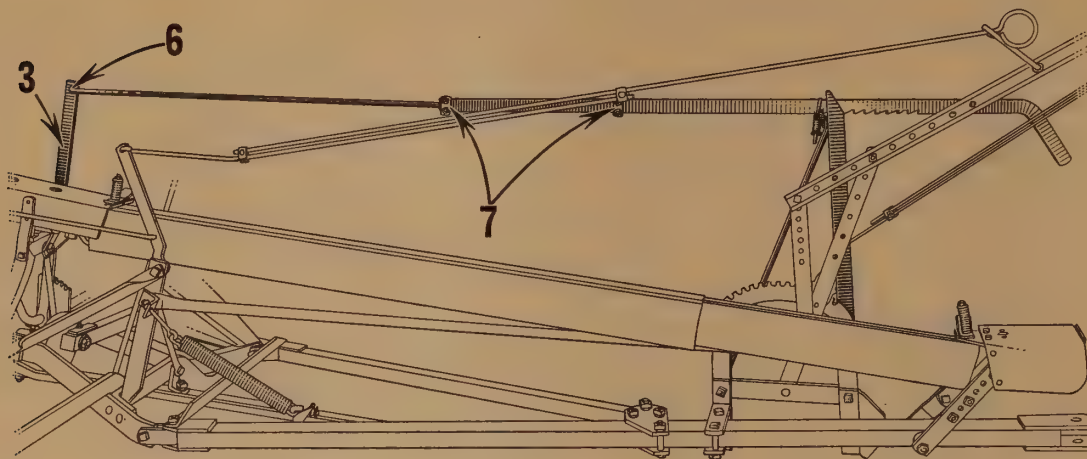

Fig. 59
3. (Fig. 59.) Attach new lever upper section furnished to stub with two bolts at same time securing round brace to upper bolt.
6. (Fig. 59.) Hook extension rod into top of rear upper section of butt pan control lever.
7. (Fig. 59.) Slide front section of butt pan control lever extension through front support bracket and secure to rear extension rod with U-bolt as shown.